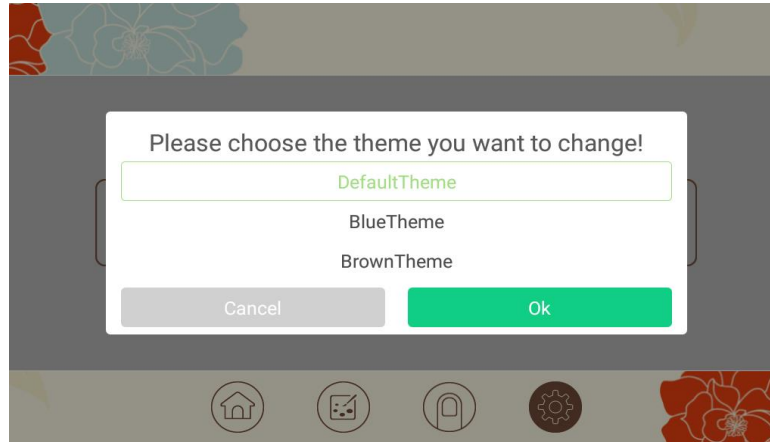
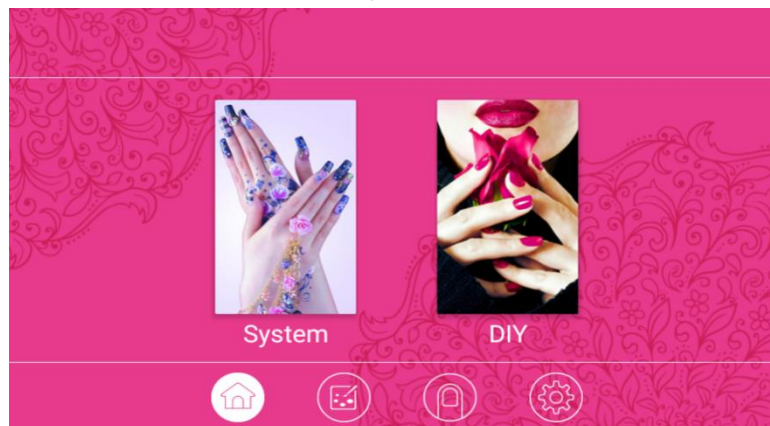
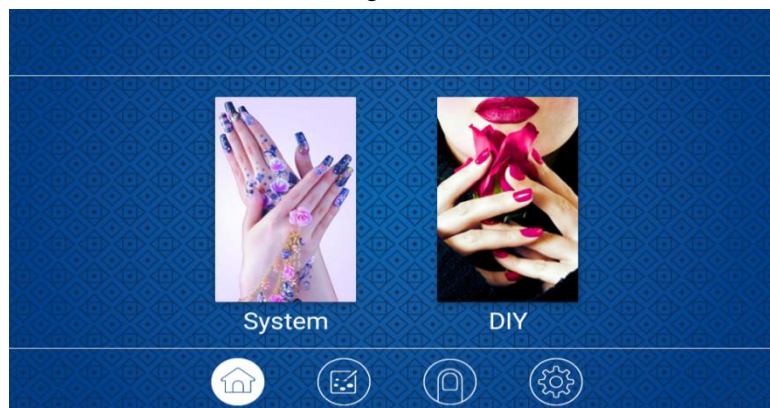

Figure 14
Figure 15
Figure 16
(2) Theme Modification: Press  and enter the theme interface to modify the theme. At present 3 types of themes are provided, including red, blue and brown, as shown in Figure 14. Red theme is shown in Figure 15. Blue theme is show in Figure 16.